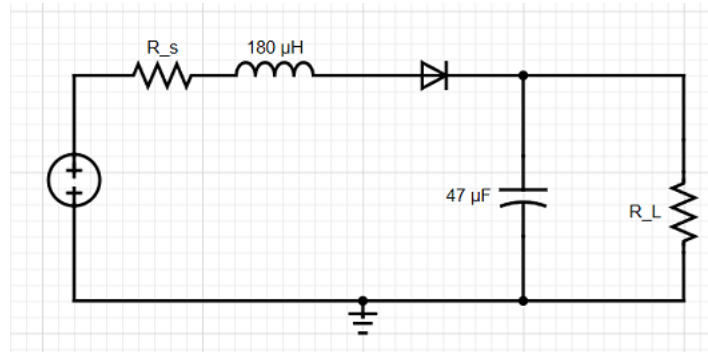
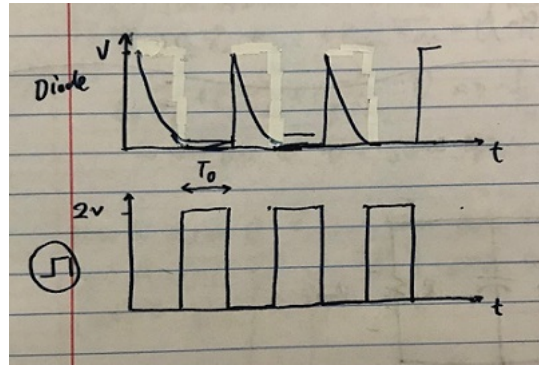

Figure 3: Equivalent circuit of DC-DC boost in Figure 1 when MOSFET is closed
Figure 5: Voltage over diode vs. time (top) and input signal from square wave generator vs. time (bottom), not-to-scale
- a) If we pretend the circuit starts operation with the square wave off and the MOSFET closed, so once the circuit stabilizes, the inductor acts as a short and the capacitor as a fully charged open-circuit, with all the current from V_{in} going through R_L . We see this circuit in Figure 3, where at $t = 0+$, the capacitor acts as a short circuit, but when the circuit stabilizes, the capacitor acts as an open circuit.
- b) Figure 5 shows the time relationship of the voltage over the diode as a function of time compared to the input voltage from the signal generator. The voltage over the diode decreases as the capacitor charges and the current in the circuit (Figure 3) decreases. However, the 0 V in Figure 5 for the diode voltage plot should be shifted, as the diode's voltage drop does not become 0 - rather, a steady value related to R_L .